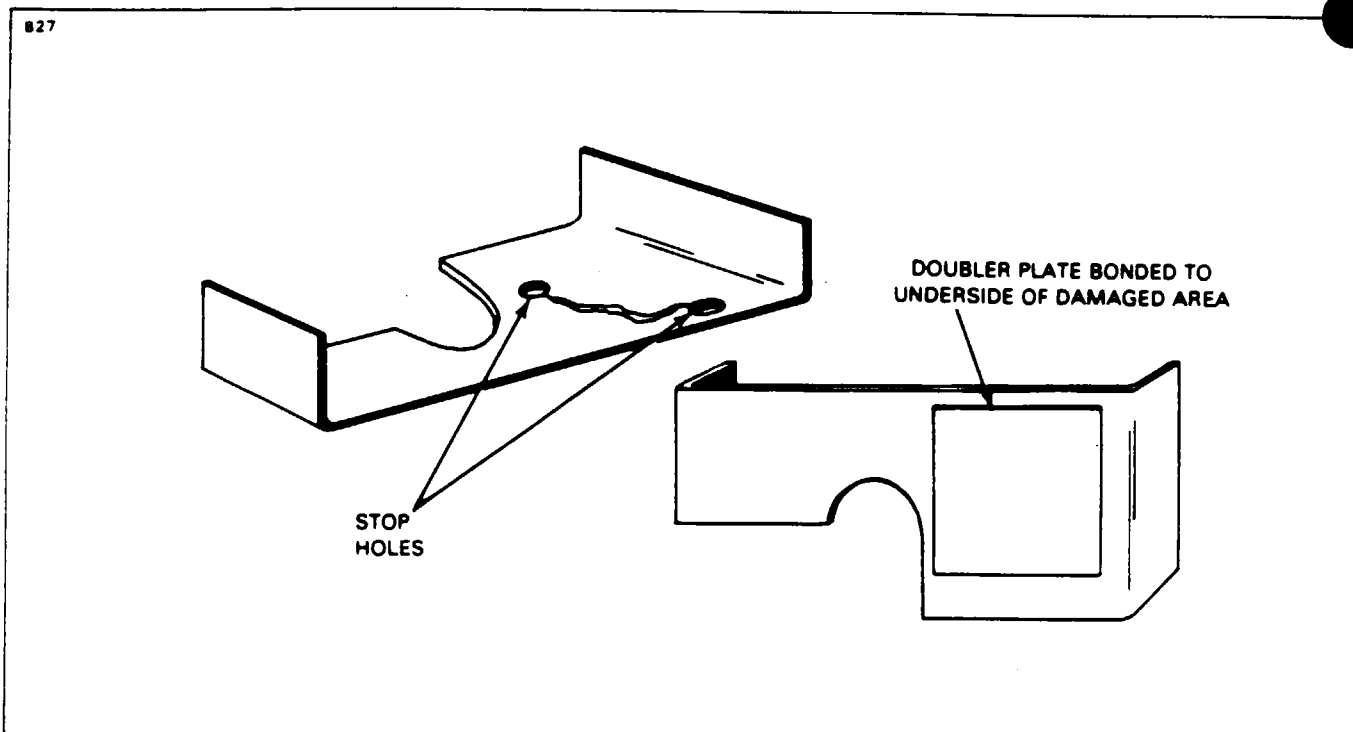

Figure 51-7. Repairing of Cracks
4. Cracks: (Refer to Figure 51-7.)